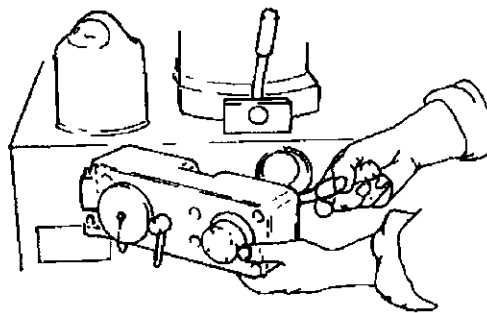

Fig. 5-8
- Unscrew the locknut anti-clockwise (approx. 60°) until the linking gear is free and can be swivelled away (Fig. 5-8).